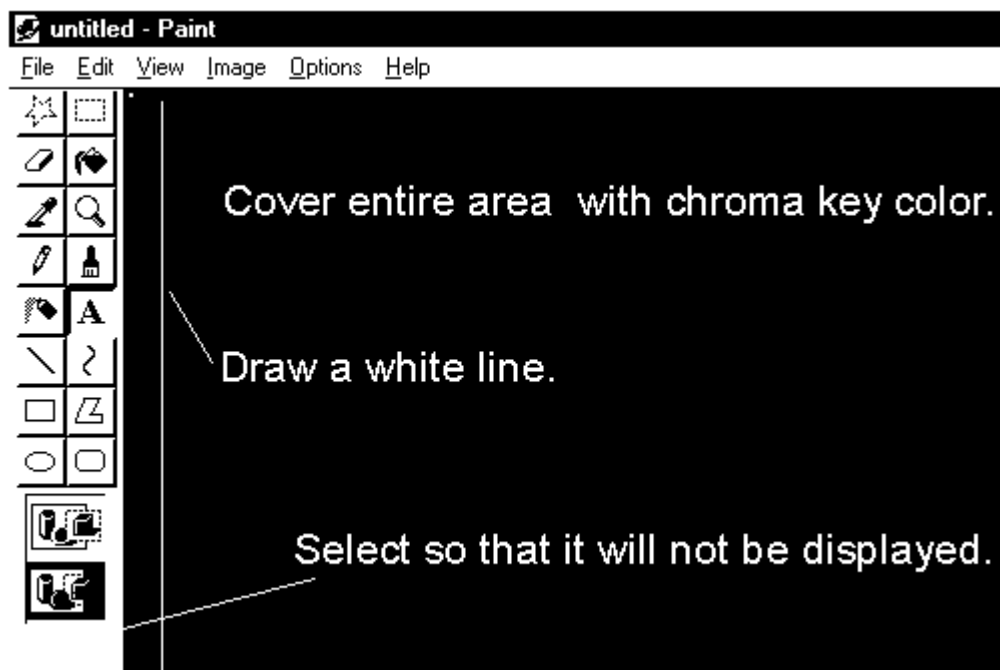

Figure 5-16: Phase adjustment between Sync Signals and Clocks
2. Draw a white vertical, one pixel wide. (**Figure 5-16**)